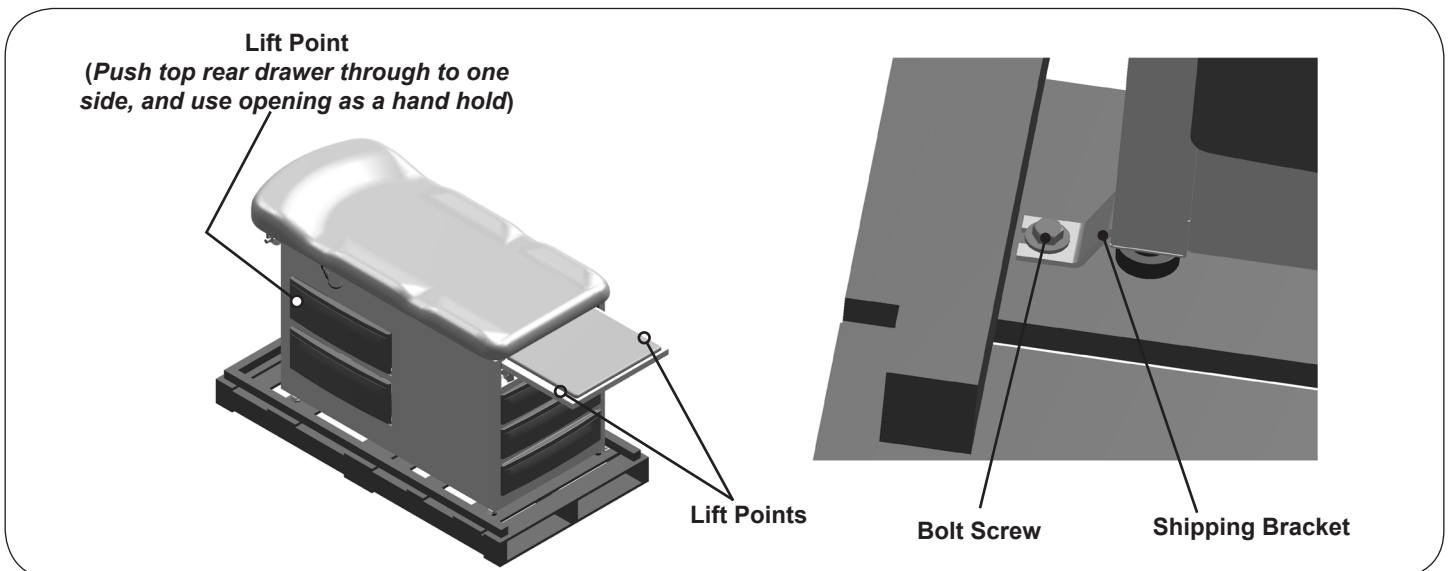

Figure 3. Table Lift Points
2. Unbolt the table from the shipping pallet by removing the 4 bolt screws from the pallet with a 1/2" socket wrench and remove the shipping bracket. See Figure 3.
3. Remove the table from the shipping pallet lifting at the correct lift points indicated in Figure 3. The leg support may be used for lifting.
- To avoid damaging the table lift only at points indicated in Figure 3.